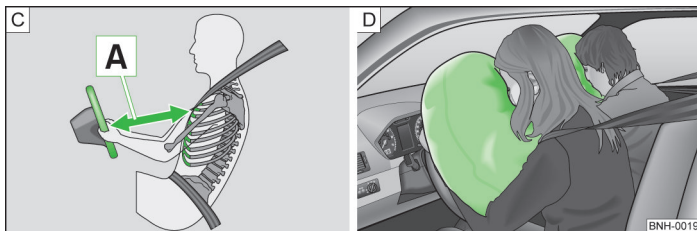

Fig. 159 Safe distance to steering wheel/inflated airbags
When the airbags are deployed, they inflate in front of the driver and front passenger » Fig. 159 – B. The forward movement of the driver and of the front passenger is cushioned when they make contact with the fully inflated airbag and the risk of injury to head and chest is thus reduced.
- For the driver and front passenger, it is important to maintain a distance of at least 25 cm to the steering wheel or dashboard A » Fig. 159. Not maintaining this minimum distance will mean that the airbag system will not be able to properly protect you – hazard! The front seats and the head restraints must always also be correctly adjusted to match the body size of the occupant.